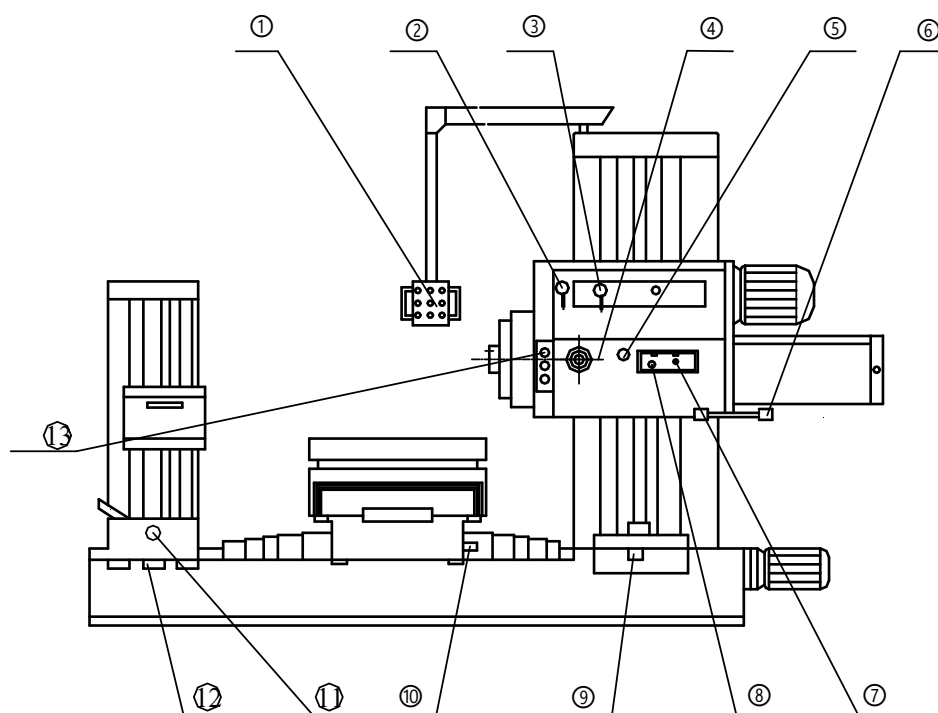
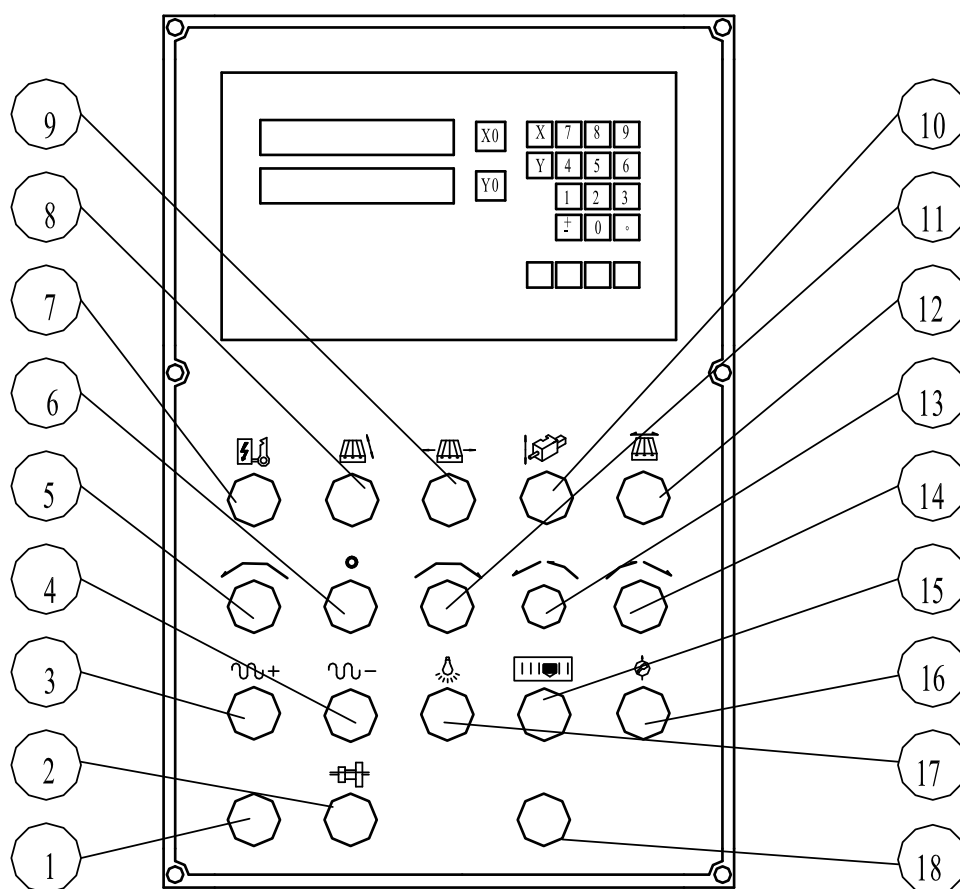

Fig.10-1 Arrangement of the operation system of the machine
Fig.10-2 Arrangement of buttons and switches on the button station
The series of operation for this machine is composed of handle levers and push-buttons (or switches). The position and action of handle levers please see Fig.10-1, for those of push-buttons (or switches) please see Fig.10-2. Push-buttons (or switches) are arranged on the pendulous push-button station.
Push the button ⑤ or ⑪ as shown in Fig.10-2. the forward or reverse continuous rotation of spindle can be obtained respectively. When the button ⑭ or ⑬ in Fig10-2 is pressed down, the forward or reverse inching rotation of spindle can be carried out.
Locate the hand lever ② in Fig.10-1 in the engaging position of facing head, and then press button ⑤ or ⑪ in Fig.10-2 to obtain the continuous forward or reverse rotation of facing head respectively; while the button ⑭ or ⑬ in Fig.10-2 is pressed down, the forward or reverse inching rotation is realized. If spindle and facing head are not required to rotate synchronously, the rotary valve ⑦ (Fig.10-1) for spindle speed change should be turned to "0" position before the above operation, the rotation of facing head can be obtained by depressing the speed-change button ② (Fig.10-2).
First, the rotary valve ⑦ (Fig.10-1) for spindle speed change should be turned to preselected speed position required. The desired speed is obtained by pushing the
speed-change button ② (Fig.10-2). Another method is called pre-selected method. First, the rotary valve for spindle speed change should be turned to pre-selected speed position required in the next step; the desired speed can be obtained by pushing speed change button.
When rotary valve ⑧ (Fig.10-1) is set to the required position, the desired feed rate can be obtained according to the above process. It also has pre-selected function for feed speed change.
10.5.1 When power feed is needed, first set the lever④ (Fig.10-1) to the outermost position, and set the lever③ to the engagement position, forward or reverse power feed of spindle can be obtained by shifting the lever ⑤ (Fig.10-1) to the forward or reverse feed position.
The operation course of the power feed and rapid traverse of facing slide is as similar as that of the power feed and rapid traverse of spindle. The difference lies in that the lever ⑤ (Fig.10-1) must be turned to the engagement position of facing slide according to the above method.
First, set the lever ③ (Fig.10-1) to the middle position (i.e. hand rough feed position of spindle and facing slide). Then shift the lever ⑩ (Fig.10-1) to forward (reverse) feed position, at this time, if pressing push-button ⑨ on the push-button station, power feed of headstock can be obtained. If pressing push-button ⑧ on the push-button station, the longitudinal power feed of worktable can be carried out; if pressing push-button ④ on the push-button station, the transverse power feed of worktable can be realized.
First, set the lever ③ (Fig.10-1) to the middle position, and shift the lever ⑩ to the middle position, the rapid traverse of three kinds of movement can be obtained respectively by pressing the forward (reverse) push-button ③ and ④ on the operation panel.
By operating the feed and rapid traverse lever described above (Fig.10-2) according to the
First put the lever ④(Fig.10-1) to the innermost position, then turn the lever ⑤ (Fig.10-1) to the spindle (or facing slide)feeding position, the hand jog feed of spindle (or facing slide) can be accomplished by turning the lever ④ (Fig.10-1).
First, push the lever ④ (Fig.10-1)to the innermost position, and shift the lever ⑤ (Fig.10-1) to the "0" position. Then press any one of the push-buttons ⑧⑨⑩and⑫, the hand jog feed for four kinds of movements canbe performed accordingly by turning the lever④(Fig.10-1).
Note: When the operation of hand jog feed motion is performed, the lever③(Fig.10-1)should be put to the mid-position.
By setting turnstile④(Fig.10-1)tothe mid-position and turning it, hand rogh feed of spindle (or facing slide) is obtained. By inserting a special-made lever (necessary accessory) into hole ⑨ (Fig.10-1) and turning it, hand rough feed of headstock is obtained. By inserting a special-made lever (necessary accessory) into hole ⑩(Fig.10-1) and turning it, one of two movements can be carried out by shifting the lever ③(Fig.10-1) and turning it, three kinds of hand rough feed of worktable can be obtained accordingly:
Note: Before the above operation, shift the lever (3) to mid-pisition, and select specific movement by pressing one of push-buttons ⑧ ⑨ ⑩ and ⑫(Fig.10-2)
10.6.3 Traverse of boring stay saddle and boring bar bearing upon inserting the long special-made lever (necessary accessory) into hole ⑪ (Fig.10-1) and turning it, one of two movements can be carried out by shifting the lever ③(Fig.10-1).
On the turnstile ④ (Fig.10-1) of headstock, there are two graduated discs. One of them is a big disc which is used for spindle/facing slide rough feed with 1mm per graduation and 200mm per revolution in Metric system and 0.02" per revolution in English system, another is small one for hand jog feed of each moving unit with 0.01mm per graduation and 0.5mm per revolution in Metric system, and 0.0005" per graduation and 0.02" per revolution.
The graduation disc on the lever hole ⑨ (Fig.10-1) is for measuring the vertical movement of headstock. In Metric, the headstock moves 0.05mm per graduation of the disc, and 8mm per graduation. In English, the headstock moves 0.002" per graduation of the disc, and 0.3" per revolution.
The graduation disc on the lever hole ⑩ (Fig.10-1) is for measuring transverse and longitudinal movements of worktable. In Metric, the worktable moves 0.05 mm per graduation of the disc, and 4mm per revolution.
Press the unclamping push-button that shown in Fig.10-1 when unloading a tool, the tool may be unloaded from the spindle.
When loading tools, insert the tool into the spindle taper hole and press the clamping push-button ⑬ (Fig.10-1), the tool may be clamped automatically.
In emergency, the machine can be shut down by pressing the push-button ⑭ (Fig.10-2) or by pressing the push-button ⑮ (Fig.10-1) for emergency stop. Once these push-buttons are used, the machine has to be restarted by pull the power-up switch to TURN OFF position and then push it to TURN ON position again.
When both the Metric and Imperial threads are tapped by changing the change gears, the feed change rotary valve ⑧ must be put at the position of feed rate of 2.5mm/, 10.0984in/r. According to required pitches, change gears A, B, C, D can be arranged as listed in Fig.10.1.